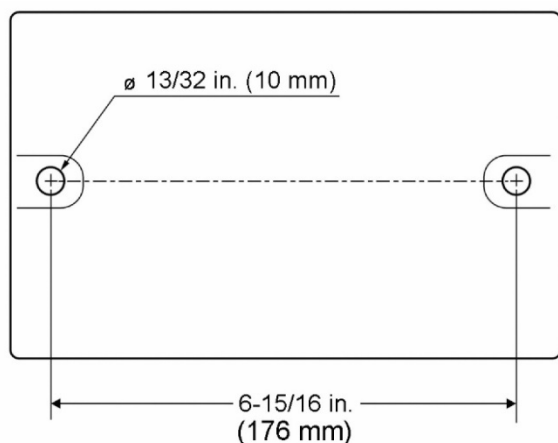

Figure 2: Mounting Holes
1. Align mounting holes on grinder with predrilled holes in a bench or grinder stand. Refer to Figure 2 for hole spacing.